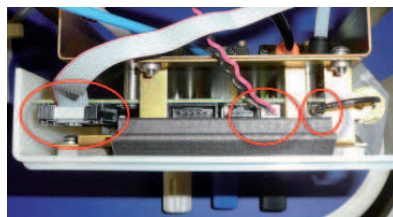

Figure 153 - Ribbon Cable, Power Connector and Light Pipe Locations
3. Disconnect the ribbon cable and the power connector from the EFM (Figure 153).
4. Remove the light pipe from the EFM circuit board (Figure 153).